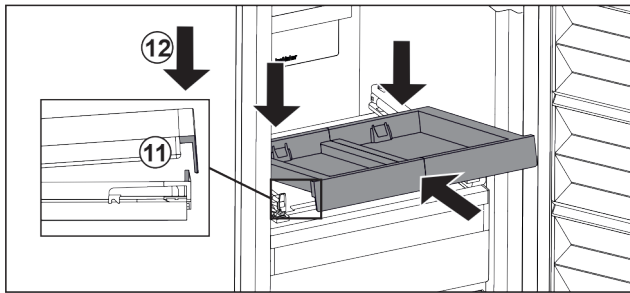

Fig. 127
- Slide in at an angle. Make sure that the stop is behind the lug on both sides. Fig. 127 (11)
- Lower the pull-out board at the front. Fig. 127 (12)